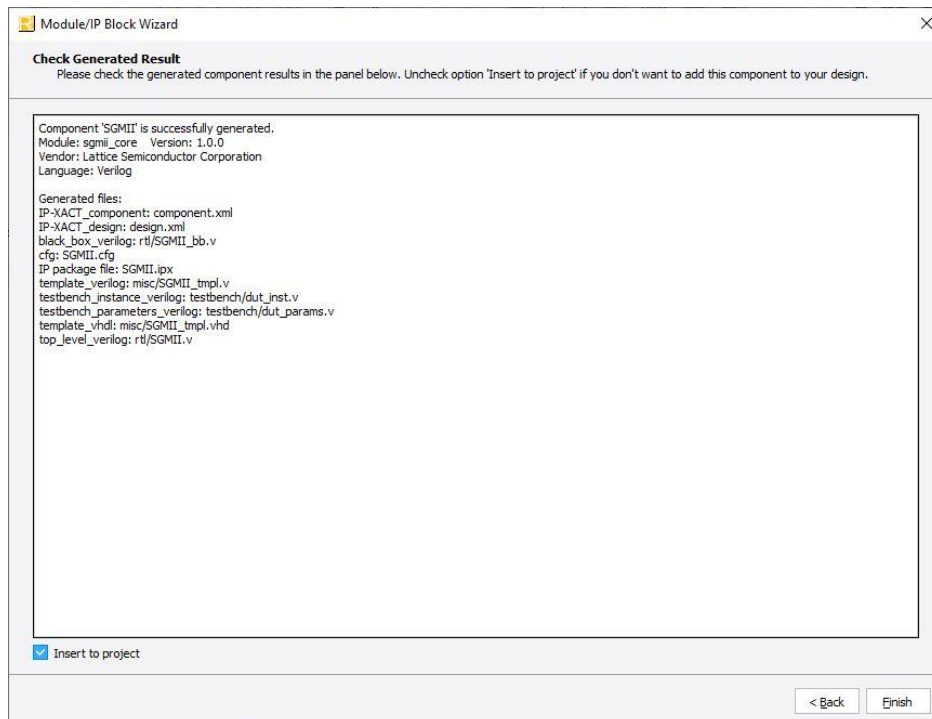

Figure 3.3. Check Generating Result
4. Click **Generate**. The **Check Generating Result** dialog box opens, showing design block messages and results as shown in Figure 3-3.